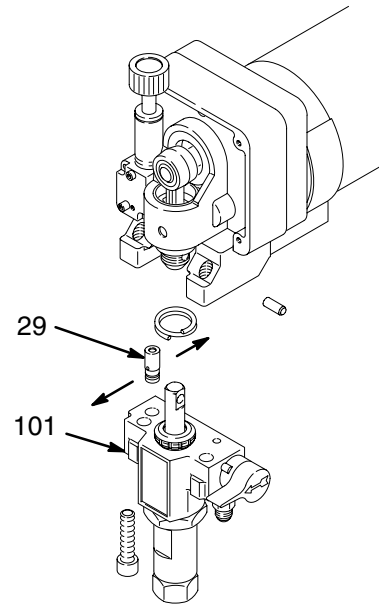

Fig. 26
NOTE: See Fig. 26 for this procedure.
2. Use a pull-twist motion to remove the transducer (29) from the pump manifold (101).
6. Align the holes in the transducer as shown by the arrows in Fig. 26.